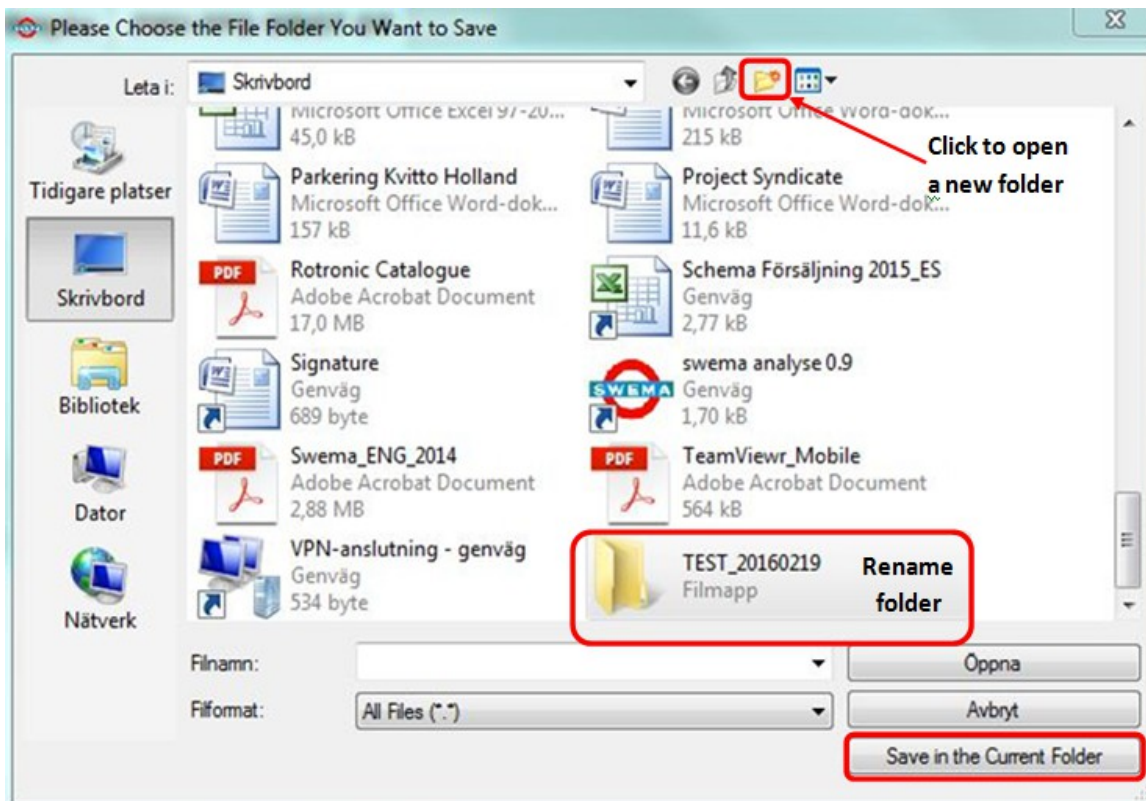

Fig 2. Saving a measurement folder
To store the measured and calculated values, Click on folder icon (6). Open a new folder in the displayed window and rename it with e.g. the name of the project and the date like TEST_20160119 in *Fig.2* below